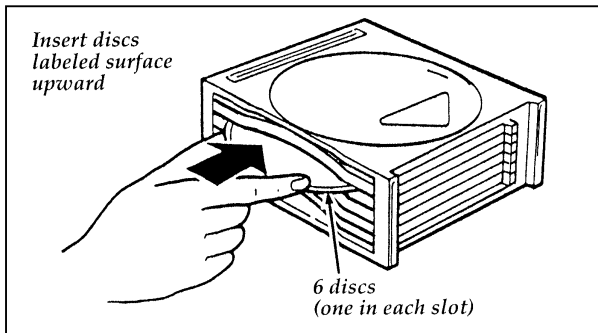

Figure 3
3. Load discs into the disc magazine slots (numbered 1 through 6 on the window) one at a time with labeled surfaces upward, starting with bottom slot number 1 (Figure 3).